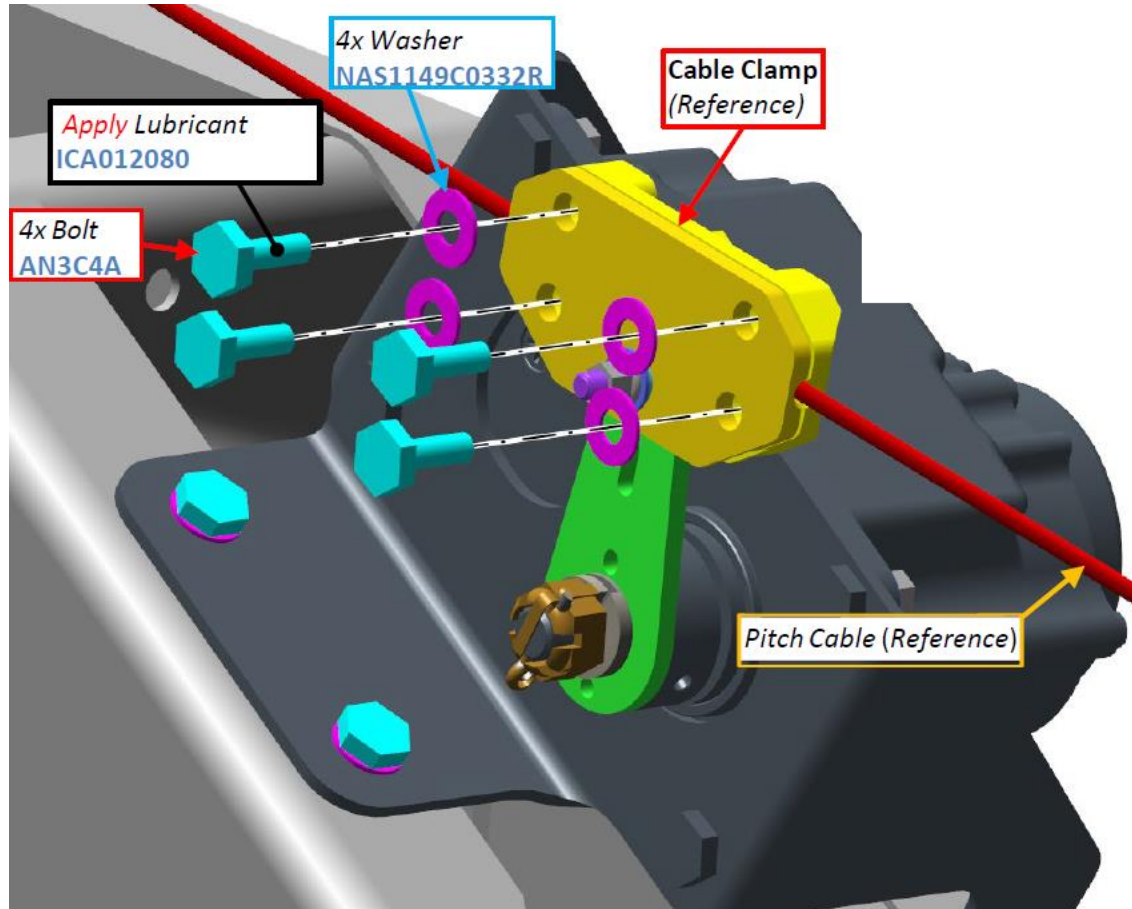

Figure 13 Pitch Clamp Installation LH Side
15. Install 4x Bolts (AN3C4A) and 4x Washers (NAS1149C0332R) (see Figure 13).